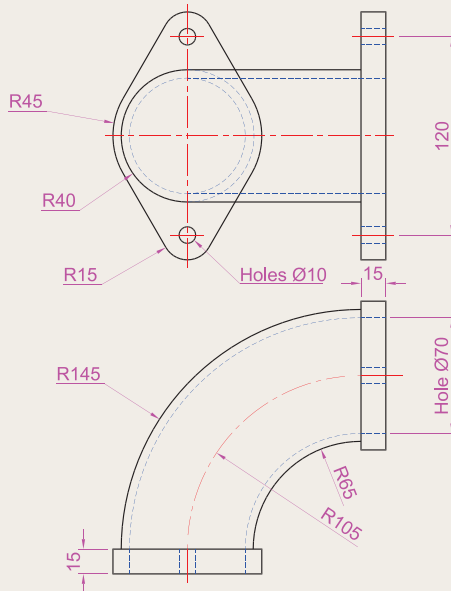

Fig. 17.37 Exercise 3 – details of shapes and sizes
3. The two-view projection (Fig. 17.37) shows a ducting pipe. Construct a 3D model drawing of the pipe. Place in a **SW Isometric** view; add lighting to the scene and a material to the model; and render.